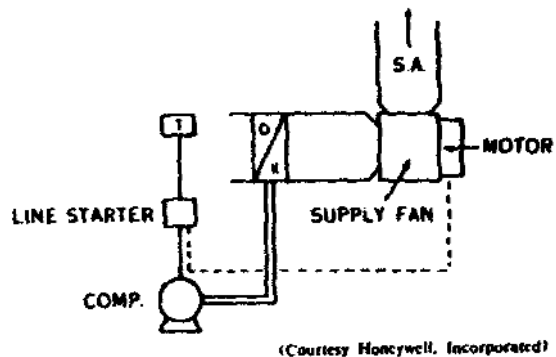

Figure 3. On-off compressor control.
8. *Simple on-off control.* The compressor is controlled by a space thermostat in an on-off manner. Figure 3 shows a system using this type of control. This system is best suited for use on small compressors and where large variations in temperature and humidity are not objectionable.